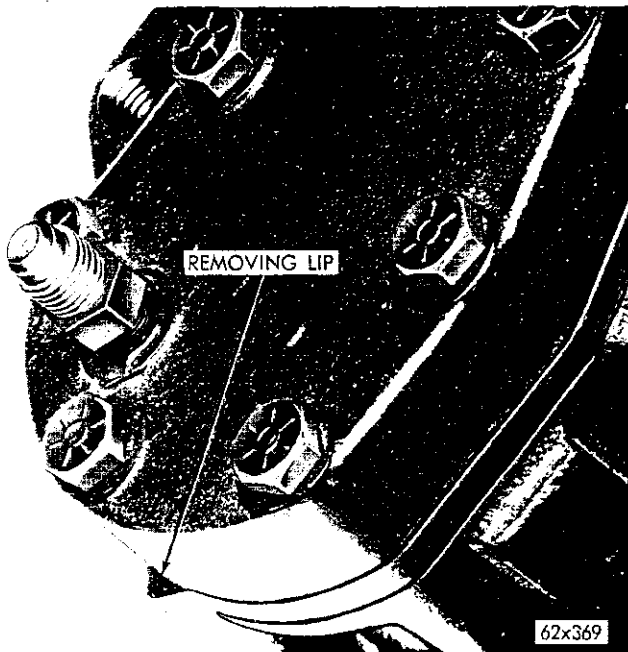

Fig. 43—Valve Plate and Head Removing Lip
- (1) Remove the cylinder head bolts, the head and valve plate assembly. If the plate does not separate from the head, tap the removing lip on the valve plate lightly with a plastic hammer (see Fig. 43). Do not pry apart.